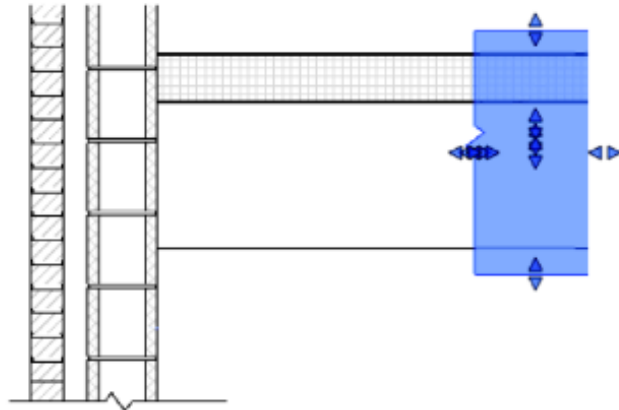

Figure 16–31
8. Add break lines to the bottom and right side of the detail. Press <Spacebar> to rotate the Break Line as required and use the controls to modify the size and depth, as shown in Figure 16–31.